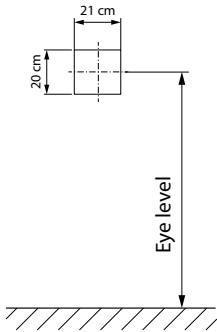

Fig.5
1. Cut out a wall section that is at least 3.5 cm deep according to the dimension in Fig. 5.